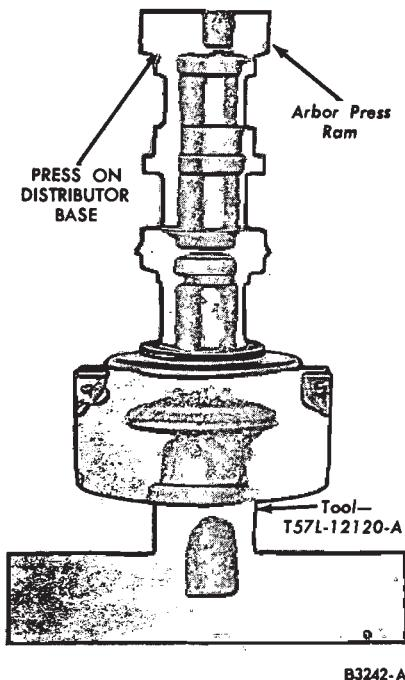

FIG. 20—Installing Upper Bushing—V-8 Engine
1. Oil the new upper bushing, and position it on the bushing replacer tool. Install the bushing (Fig. 20). When the tool bottoms against the distributor base, the bushing will be installed to the correct depth.